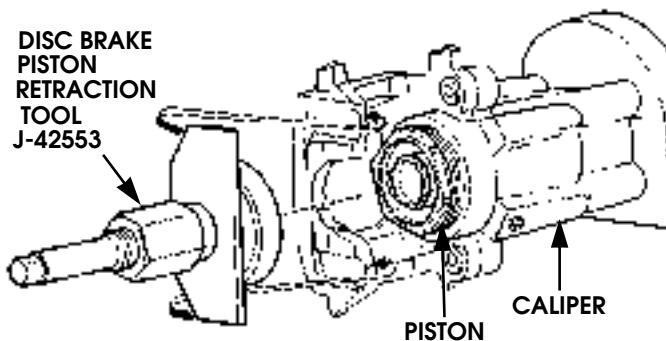

Figure 7-36: Piston Removal
- c. Rotate caliper piston in counter-clockwise direction until it comes off thrust screw. Rotate piston by hand, or use piston retraction tool J-42553 (Figure 7-36).